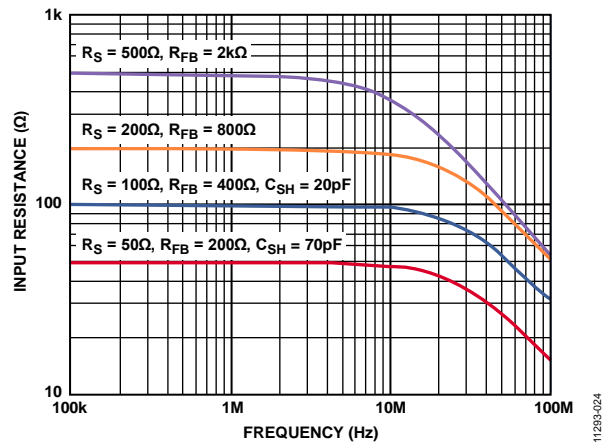

Figure 34. Input Resistance (RIN) vs. Frequency for Various RFB Values (Effects of Rs and CSH Are Also Shown)
The bandwidth (BW) of the LNA is greater than 80 MHz. Ultimately, the BW of the LNA limits the accuracy of the synthesized RIN. RIN = Rs up to approximately 200 Ω. The best match is between 100 kHz and 10 MHz where the lower frequency limit is determined by the size of the ac coupling capacitors and the upper limit is determined by the LNA BW. Furthermore, the input capacitance and Rs limit the BW at higher frequencies. Figure 34 shows input resistance (RIN) vs. frequency for various RFB values.
For larger RIN values, parasitic capacitance starts rolling off the signal BW before the LNA can produce peaking. CSH further degrades the match; therefore, do not use CSH for values of RIN that are greater than 100 Ω (see Figure 34).